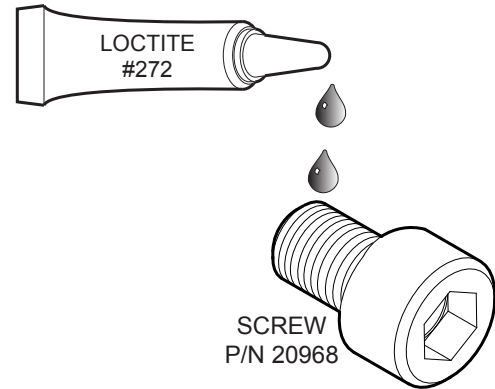

Figure 17. Applying Loctite® 272™ (Screw)
- Apply Loctite® 272™ to the male threads on the screw (P/N 20968). See Figure 17.